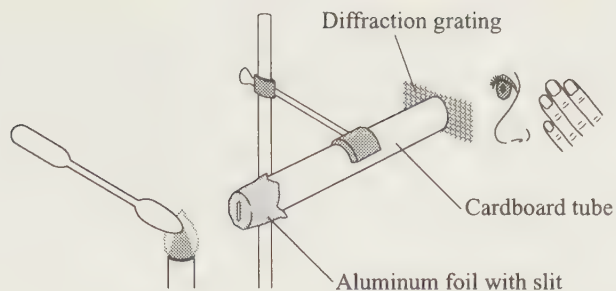

FIGURE 2 A homemade spectroscope.
1. Use the same procedure as in Part A, this time observing the flame through a spectroscope mounted on a ring stand. You can use either a commercial unit or a homemade one like the one shown in Figure 2.